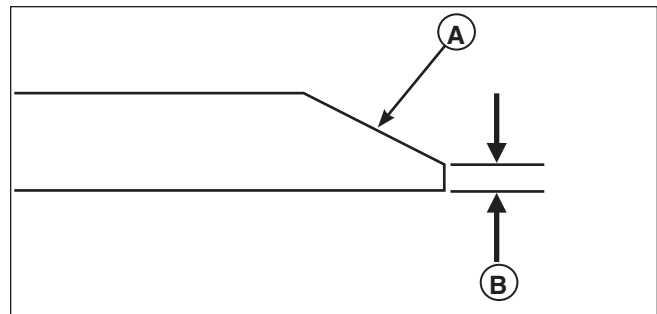

Figure 21. Sharpening the Mower Blade
3. Keep the original bevel (**A, Figure 21**) when grinding. **DO NOT** change the mower blade bevel.